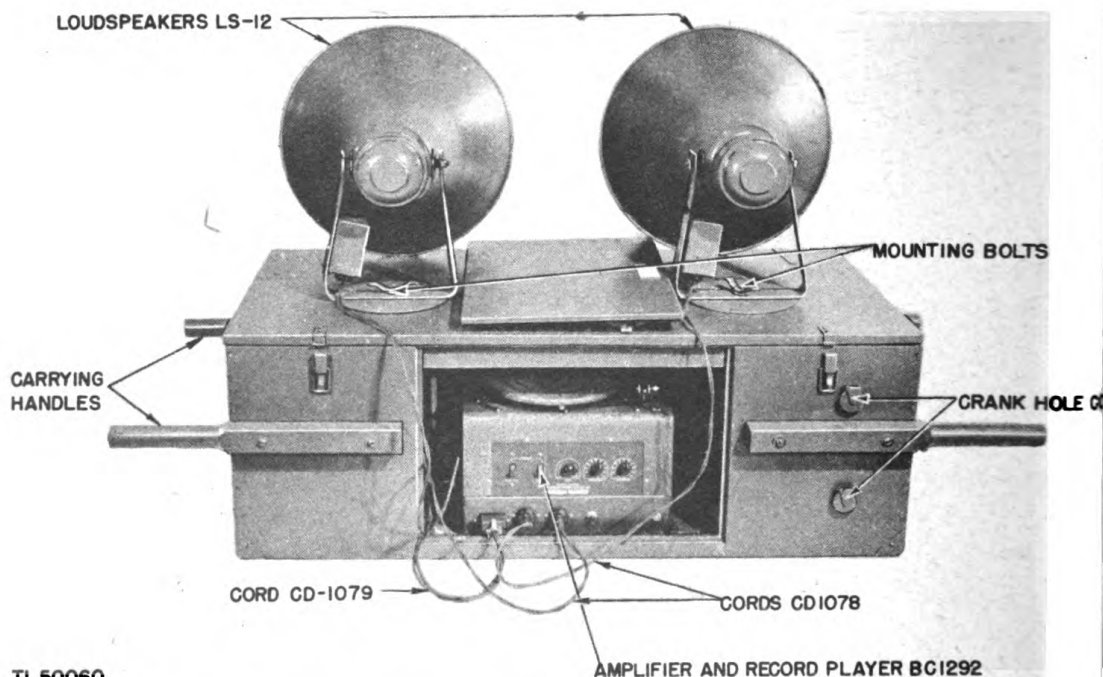

Figure 12. Loudspeakers LS-12 mounted on Chest CH-229, front view
- (1) Open the lid and remove the front panel from Chest CH-229.
- (2) Remove the tray from the left side of Chest CH-229.
- (3) Remove Microphone T-55 and Bracket M-406.
- (4) Remove Cords CD-1078, CD-1075 and CD-1077 from the tray and replace the tray in the chest. Close the lid.
- (5) Open Chest CH-230-(*) and remove speakers.
- (6) Place the loudspeakers on the lid of Chest CH-229. Line up the mounting holes in each speaker bracket with the threaded hole in the lid of the chest.
- (7) Insert the mounting bolts through the holes in the speaker brackets and screw them into the threaded holes in the lid (figure 12).